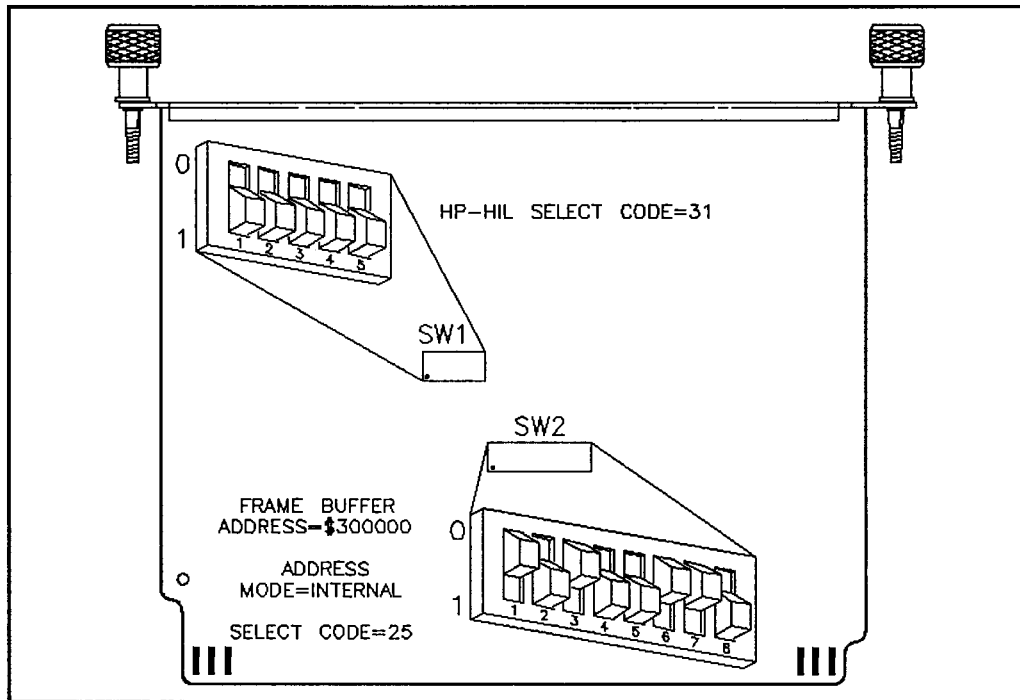

Figure 4-69.
The HP-HIL select code switches (SW1), should be set to 31, as shown in Figure 4-69.
Note If this is the first (or only) Graphics Display Controller Interface you are installing, you can skip to step 4. Your frame buffer address is preset to \$300000 (in hexadecimal), as shown in Figure 4-69, and need not be changed.
- a. Find the set of eight switches labeled SW2 on the Graphics Display Controller Interface (see Figure 4-69). Switches 1 and 2 in this group determine the frame buffer address.
- a. Find the set of eight switches labeled SW2 on the Graphics Display Controller Interface (see Figure 4-69). Switch 3 in this group determines the addressing mode, internal (0) and external (1).
- b. If you want to use the Graphics Display Controller as the system console, or if it is your *only* bit-mapped system display, set switch 3 to 0, as shown in Figure 4-69. This places the Graphics Display Controller at **internal address** \$560000 (in hexadecimal). If you have two Graphics Display Controllers, only one of them may be set to internal addressing mode.
- c. To use the Graphics Display Controller as a graphics output device *only*, set switch 3 to 1, which is opposite the setting shown in Figure 4-69. This places the Graphics Display Controller at the **external address** (that is, select code) specified in the next step.